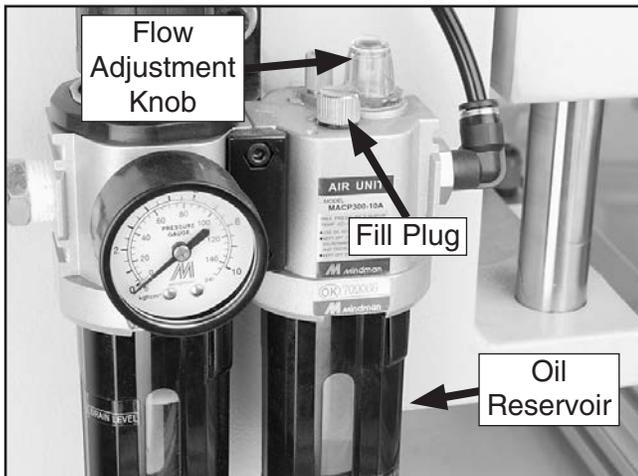

Figure 13. Air lubricator unit.
8. Remove the fill plug on top of the air lubricator unit (see **Figure 13**), and fill the oil reservoir with standard pneumatic tool oil.